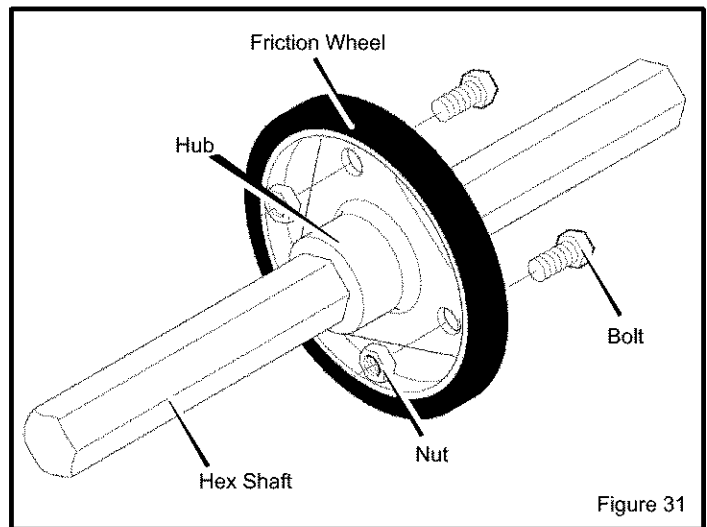

Figure 31
9. Position new friction wheel onto hub (see Figure 31). Install bearing plates to original position. Ensure hex shaft is engaged with both bearing plates.